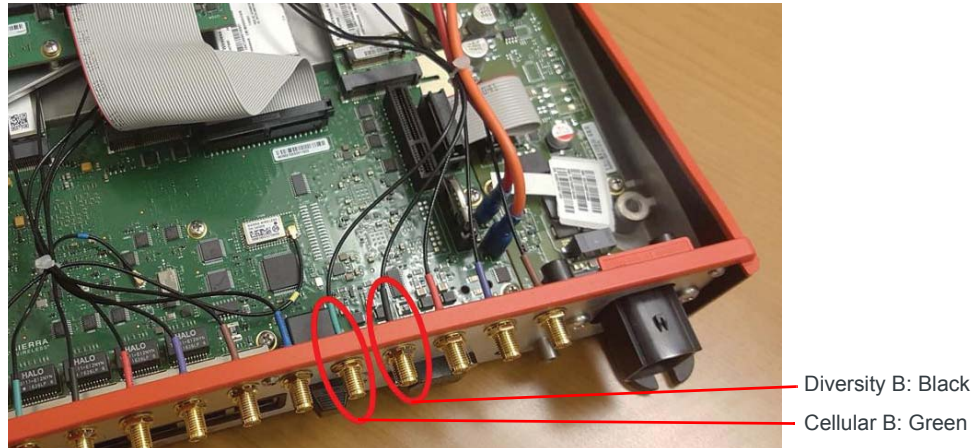

Figure 3: Installing or replacing the cables
5. Install the Cellular B and Diversity B cables included in the kit. The cable location is defined by the color labels, as shown in Figure 3.